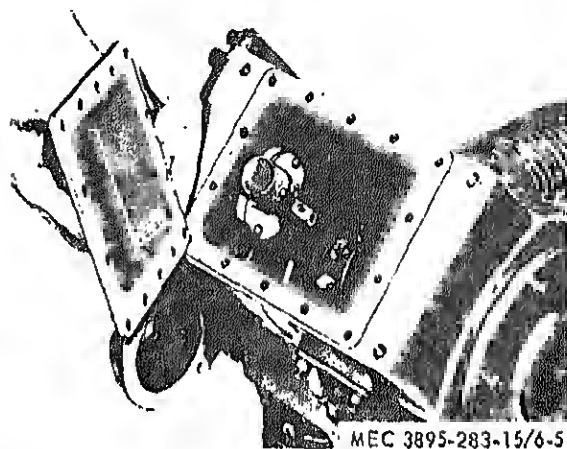

Figure 6-5. Oil Pan Removal.
a. Removal (fig. 6-5, 6-6, and 6-7).
(1) Remove oil pan.
(2) Take out the slotted pipe plug.
(3) With 5/32 Allen wrench, remove the oil pump lock screw.
(4) Unscrew locknut holding oil pump driving gear to shaft.
(5) With a soft brass rod or punch, drive shaft through gear.
(6) Withdraw oil pump toward center of crankcase.